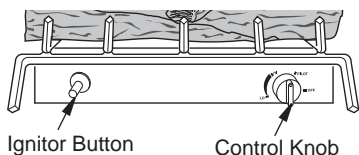

Figure 23 - Control Knob and Ignitor Button Location
4. Wait five (5) minutes to clear out any gas. Then smell for gas, including near the floor. If you smell gas, STOP! Follow "B" in the safety information, page 18. If you don't smell gas, go to the next step.
5. Slightly depress and turn control knob counterclockwise ↶ to the PILOT position. Keep control knob pressed in for five (5) seconds (see Figure 23).